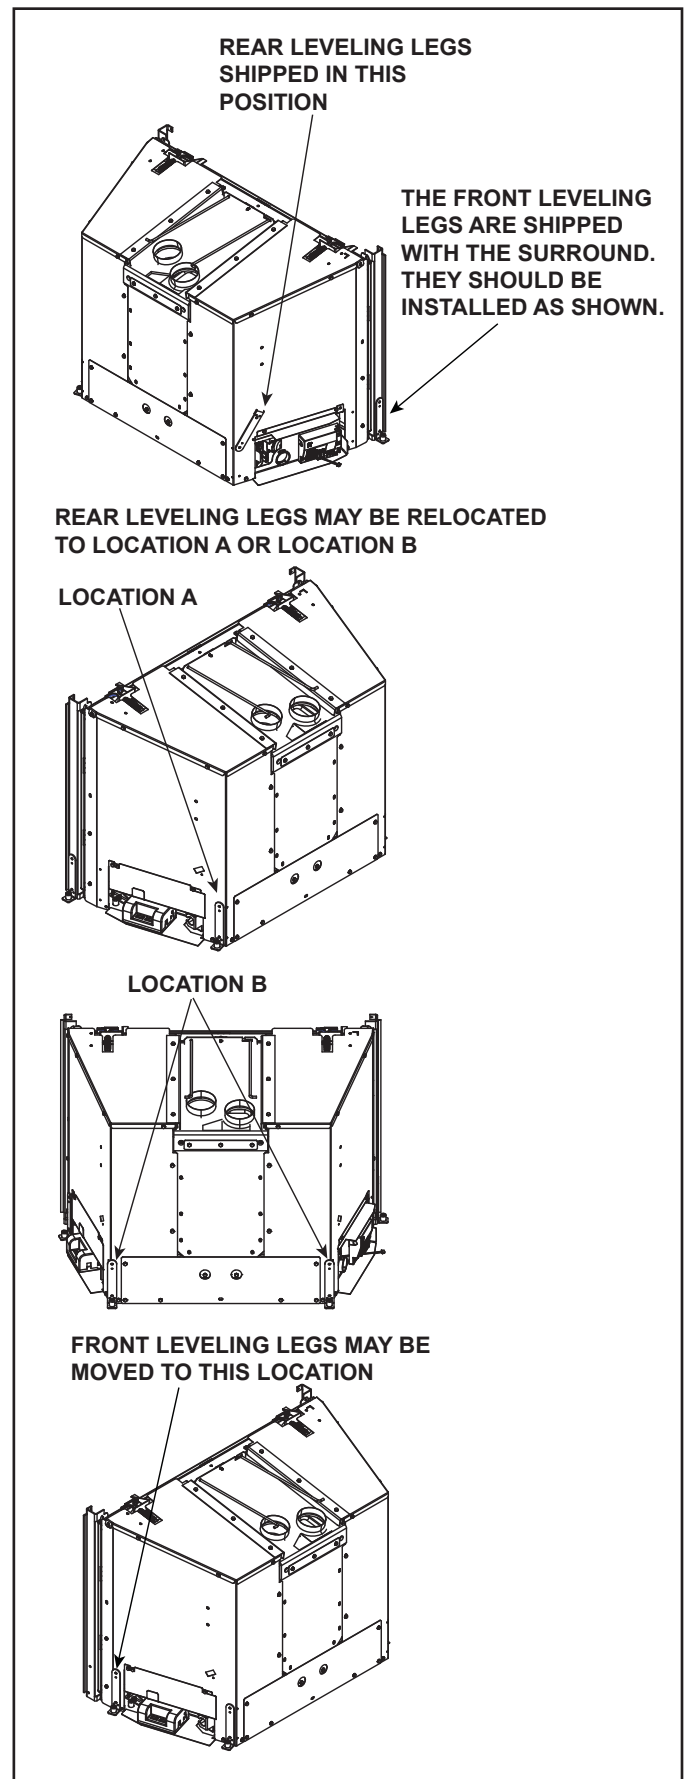

Figure 8.3
- Remove rear leveling legs from shipping position and relocate to one of the positions shown in Figure 8.3. Remove both screws that secure the leveling leg to the side of the appliance. Turn the leveling leg around so that the foot is facing out and downward. Line up the two holes on the leg with the holes on the appliance and secure with screws. See Figure 8.3.
- Front leveling legs are shipped with surround and may be installed in one of two locations. See Figure 8.3.